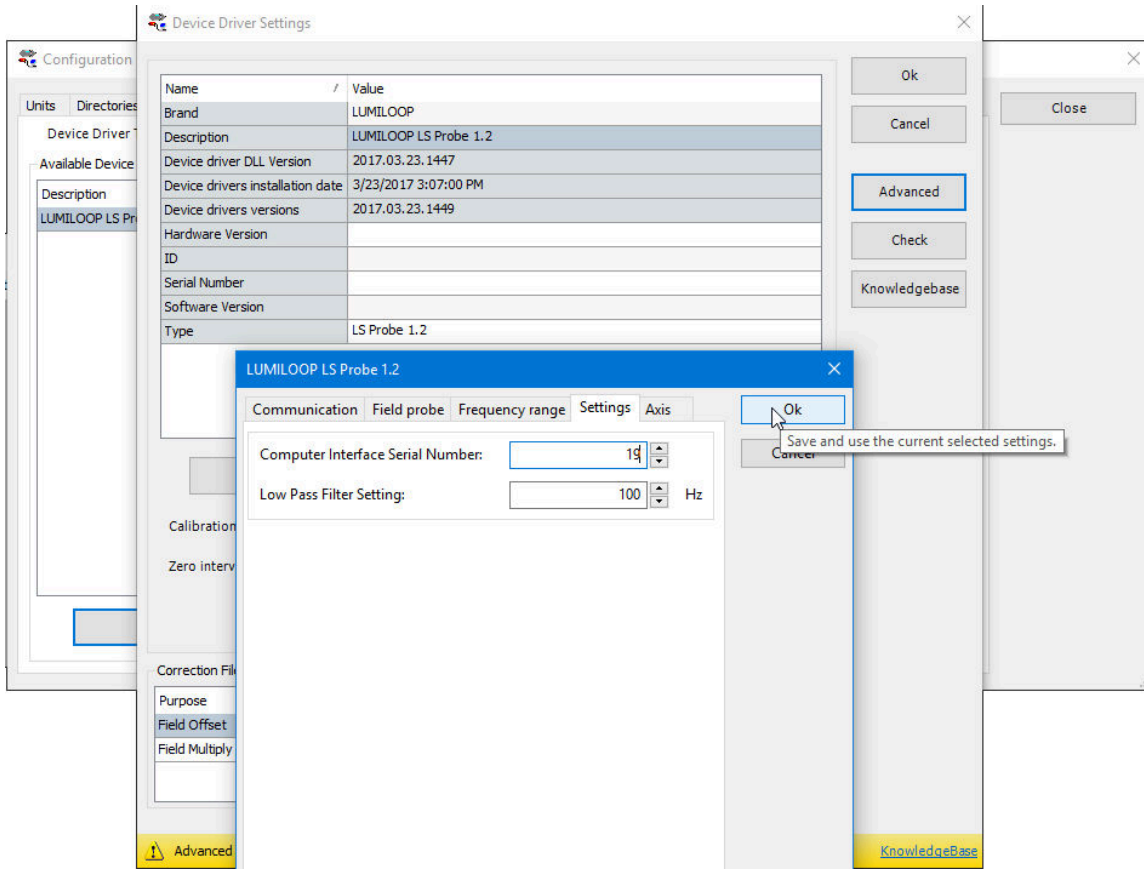
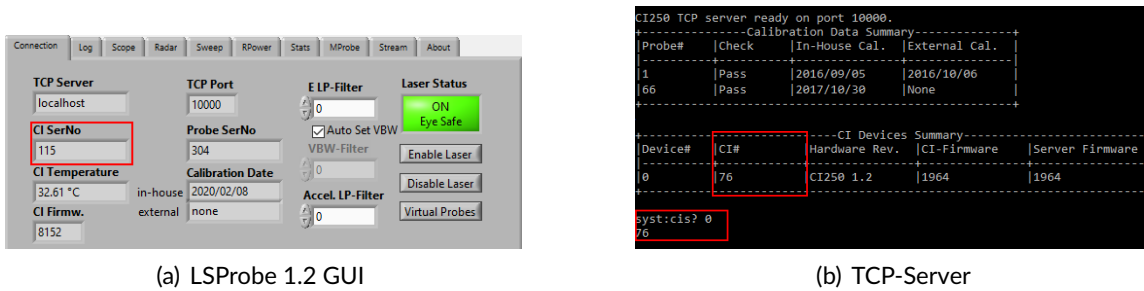

Figure 56: Configuring LSProbe 1.2 field sensor in RadiMation
Figure 57: Acquiring the computer interface serial number
A “Device Driver Settings” window will open as shown in Figure 56. Click the “Advanced” button and select the “Settings tab”. Enter the correct CI-250 Computer Interface number of the E-field probe to be connected. To determine the serial number of the computer interface type the SCPI command »:SYSTem:CI Serial? [<MProbe>] 0« in the TCP-Server window, which will return the list of all connected CI-250 Computer Interface serial numbers or refer to the Computer Interface Device Summary table output by the TCP-server as shown in Figure 57(a). Alternatively, open the LSProbe
1.2 GUI, select the “Connection” tab and find the “CI SerNo” indicator field as shown in Figure 57(b). The low-pass filter frequency is also adjustable in this window. Click “OK” to close the advanced setting window and the “Device Driver Settings” window. The TCP host and port can be configured using the “Communication” tab.